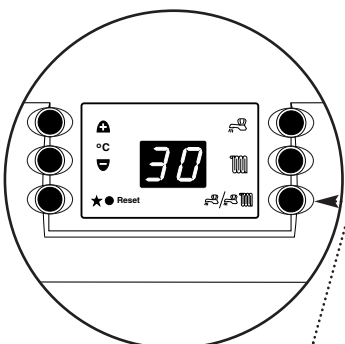
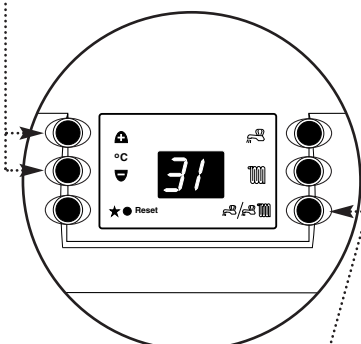

Fig. 42
Fig. 43
4. Press the Summer/Winter Mode Button marked (  ) until the display shows “30” (Fig. 42). The “3” indicates that the installer parameter for system frost protection has been selected. The “0” indicates that the system frost protection is switched off. Press the “+” Temperature Control Button until the display shows “31” (Fig. 43). The “1” indicates that the system frost protection is switched on. 1 minute after the parameter has been set the display will revert to normal operation.
6. Press the Summer/Winter Mode Button marked (  ) until the display shows “31” (Fig. 43). The “3” indicates that the installer parameter for system frost protection has been selected. The “1” indicates that the system frost protection is switched on. Press the “-” Temperature Control Button until the display shows “30” (Fig. 42). The “0” indicates that the system frost protection is switched off. 1 minute after the parameter has been set the display will revert to normal operation.